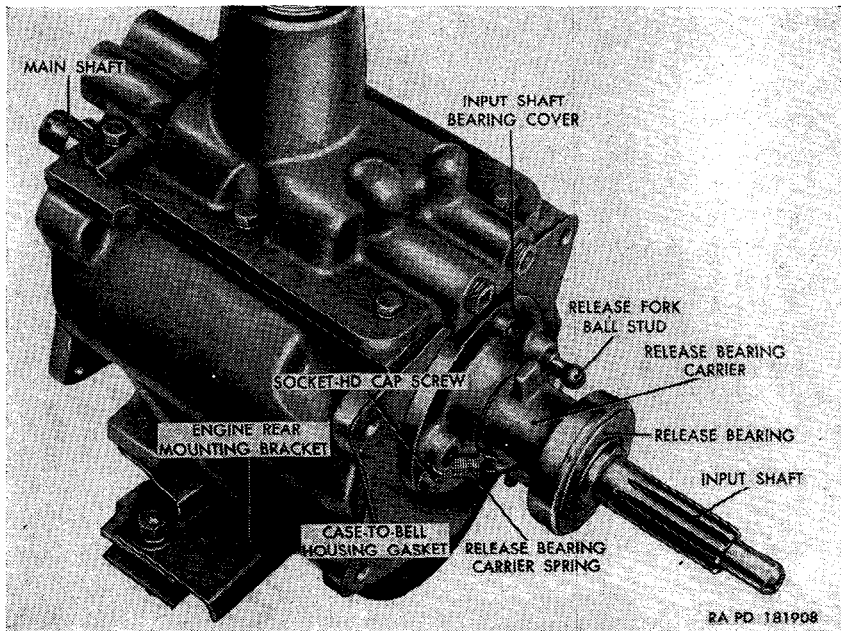

Figure 124. Transmission removed from power plant.
e. Disconnect the release bearing carrier spring (fig. 124) from the transmission input shaft bearing cover. Slide the release bearing carrier and release bearing off the input shaft. Remove the release fork ball stud from the bearing cover.
f. Remove the three socket-head cap screws and gaskets securing the input shaft bearing cover (fig. 124) to the front face of the transmission. Slide the cover off the input shaft and remove the case-to-bell housing gasket. Discard gasket.
a. Position the engine rear mounting bracket (fig. 124) on the bottom of the transmission. Secure the bracket to the transmission with four  $\frac{3}{8}$ -inch lockwashers and  $\frac{3}{8} \times \frac{5}{8}$  bolts.
b. Coat a new case-to-bell housing gasket (fig. 124) with plastic-type gasket cement. Position the gasket against the front face of the transmission, aligning the gasket holes with the transmission holes. Slide the transmission input shaft bearing cover over the shaft and into position against the gasket. Secure the cover and gasket to the transmission with three  $\frac{5}{16}$ -inch screw gaskets and  $\frac{5}{16} \times 1\frac{1}{4}$  socket-head cap screws.
c. Slide the release bearing carrier (fig. 124) and release bearing on to the input shaft, making certain to position the two flanges vertically as shown in figure 124. Connect the release bearing carrier spring to the bearing cover on the transmission. Install the release fork ball stud in the bearing cover hole.